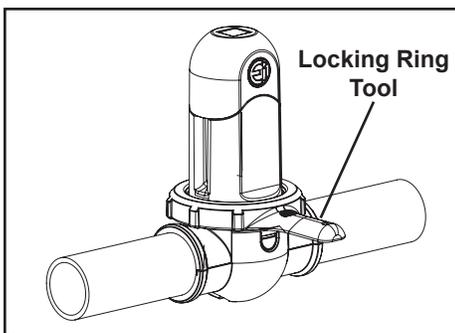

Figure 24. Undo Locking Ring
4. Undo the locking ring. If required, use the locking ring tool provided (see Figure 24).